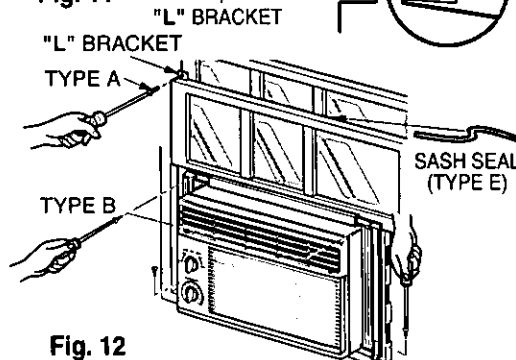

Fig. 12
Extend the guide panels (TYPE F) to fill the window opening using 4 screws (TYPE B) to secure them, as shown in Fig. 12.
- Cut the sash seal (TYPE E) to the window width. Stuff the sash seal between the glass and the window to prevent air and insects from getting into the room, as shown in Fig. 12.
- Fasten the "L" bracket using a (TYPE A) screw, as shown in Fig. 12.